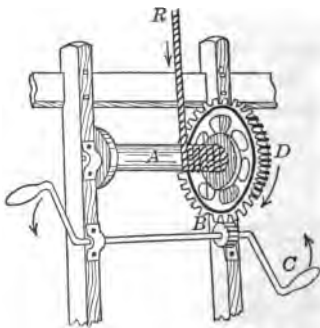

FIG. 176. — Derrick.
29. Fig. 176 shows a simple derrick. The crank C is 2 ft. long. The axle upon which the rope winds is 4 inches in diameter. There are 60 cogs in D and 10 in B . If the end of the rope R is attached to a system of pulleys in which 5 strands support the movable block, what force at C will be required to lift a weight of 12,000 pounds?